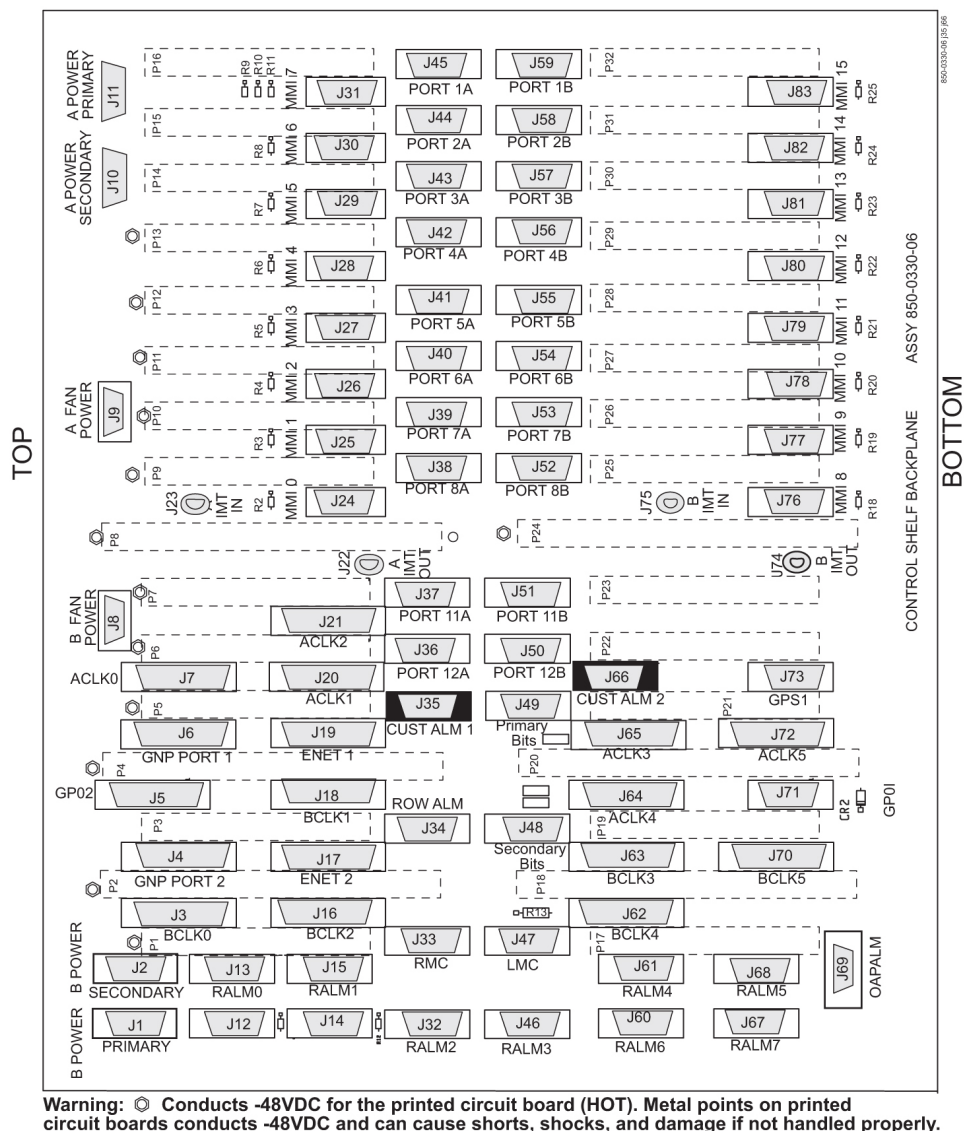

Figure 117: CUST ALM 1 J35 and (not supported) CUST ALM 2 J66 Connectors on Control Shelf Backplane -06 or -07
2. Connect the DB26 connector of the holdover clock alarm cable to the EXTALM connector and CUSTALM 1 connector J35, J66 on backplane (P/N 850-0330-06 or -07) on the system control shelf backplane, see Figure 117: CUST ALM 1 J35 and \(not supported\) CUST ALM 2 J66 Connectors on Control Shelf Backplane -06 or -07.